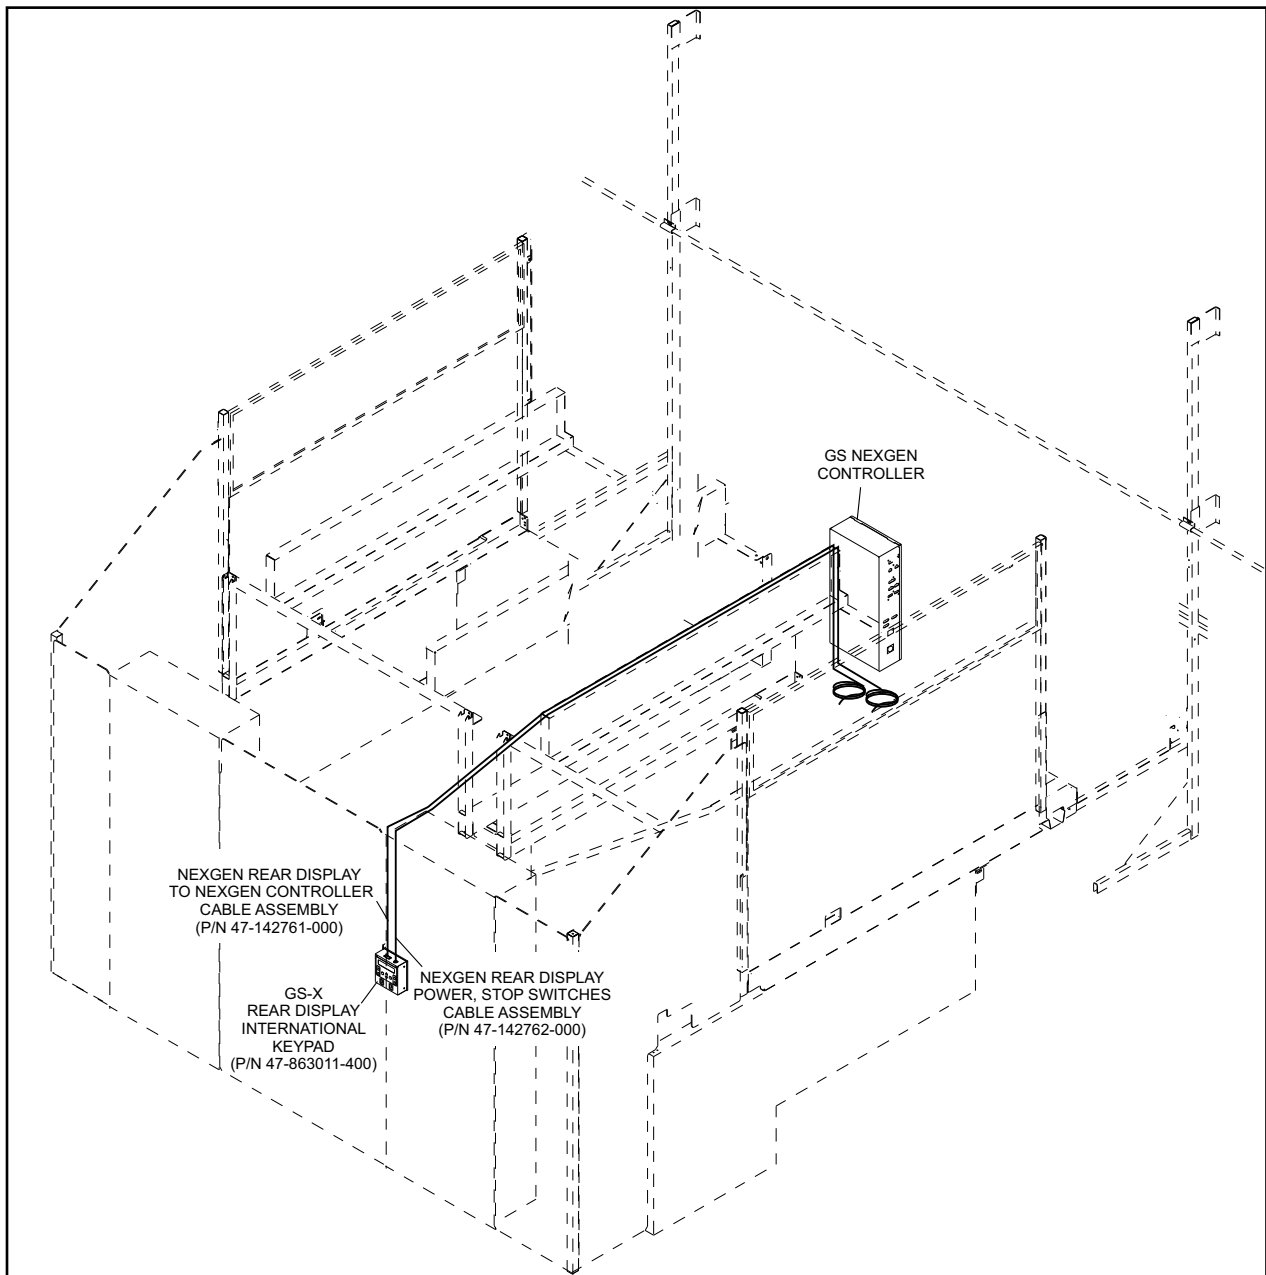

Figure 2
2. Route “GS-X Rear Display Box to Nexgen” cable assembly (P/N 47-142761-000) and “GS-X Rear Display Box Power, Stop Switches” cable assembly (P/N 47-142762-000). Refer to *Figure 2*.